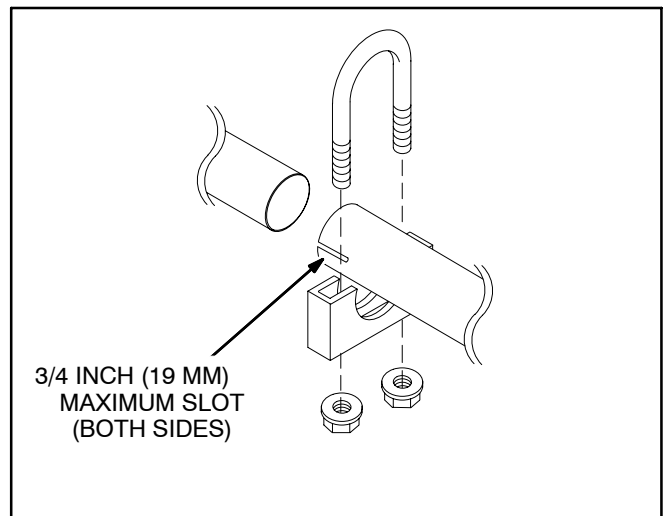

FIGURE 3-2. EXHAUST TAILPIPE CONNECTIONS
2. Use U-bolt muffler clamps to connect sections of tailpipe. It is recommended that the overlapping pipe be slotted as shown in Figure 3-2.
8. *Exhaust back pressure under full load must not exceed 2 inches (51 mm) water column (WC) as measured within 6 inches (154 mm) of the muffler outlet flange.*